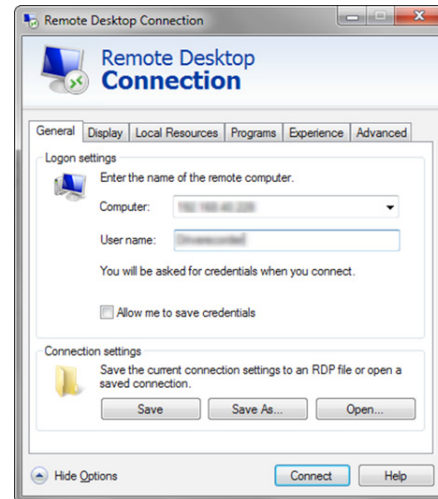

Fig. 2
- from the Start Menu launch Remote Desktop Connection tool (Fig.2)